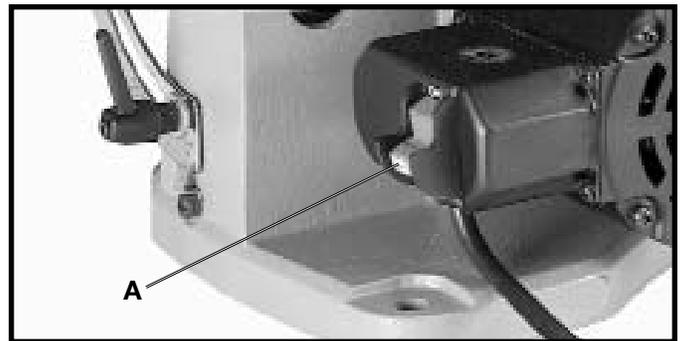

Fig. 11
The on-off switch (A) Fig. 11, is located on the motor directly under the right hand side of the table. To turn the saw “**ON**”, move the switch (A) to the up position and to turn the saw “**OFF**”, move the switch to the down position.